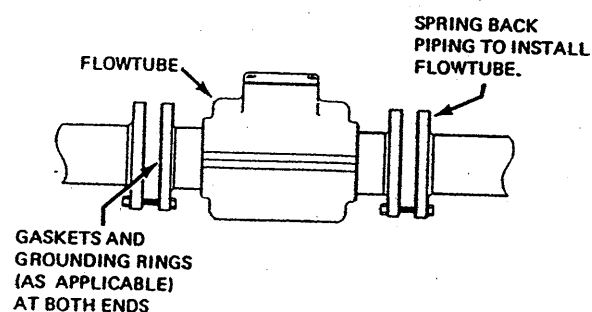

Figure 17.
a. Refer to Figure 17. Spring back piping to allow clearance as necessary to insert flowtube without causing damage to lining.